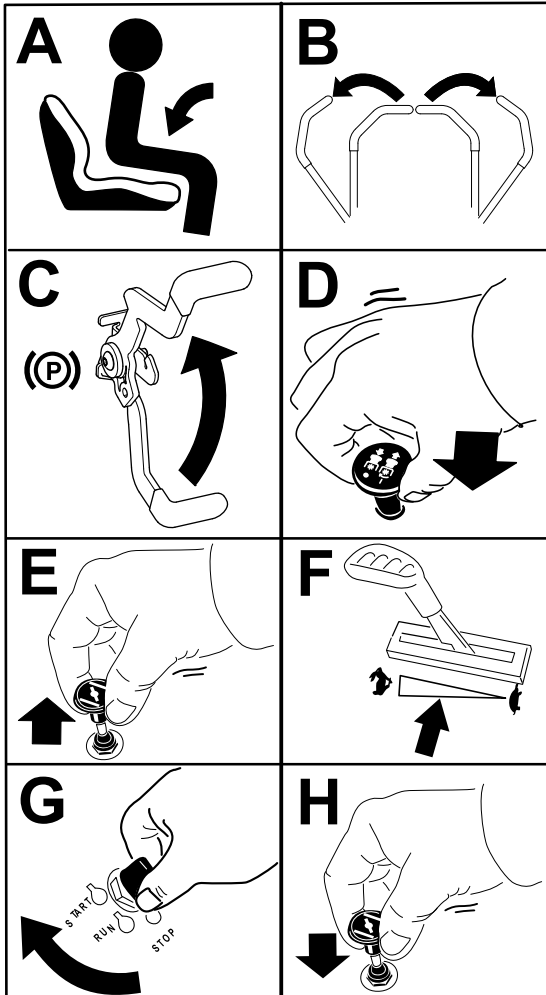

Figure 23
1. Disengage the blades by moving the blade-control switch to the OFF position (Figure 23).